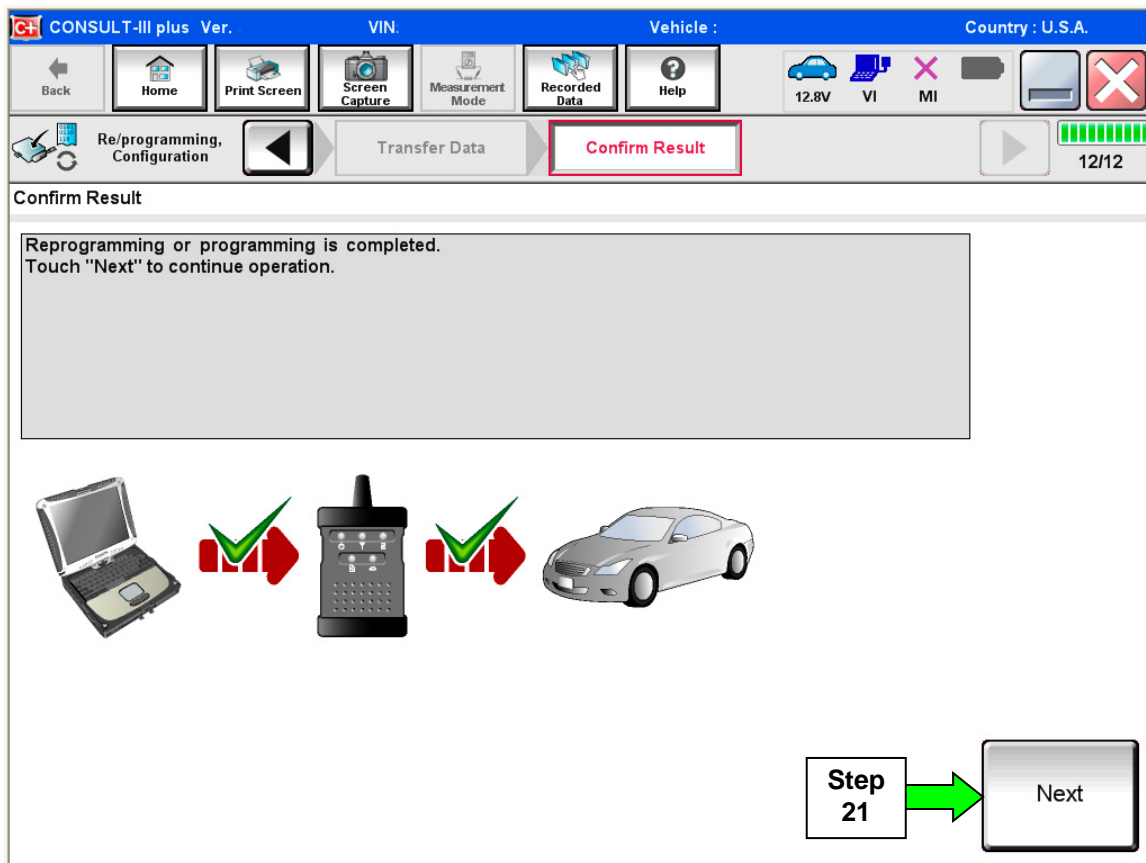

Figure 15
19. When the screen in Figure 15 displays, reprogramming is complete.
**NOTE:** If the screen in Figure 15 does not display (reprogramming does not complete), refer to the information on page 13.